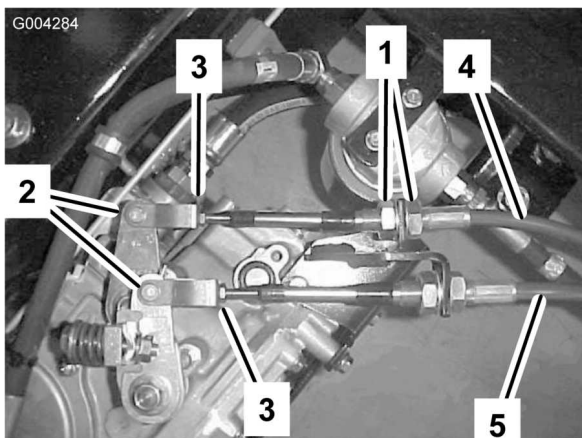

Figure 30
1. At the transaxle, remove cotter pins and clevis pins that secure cable clevis to shift levers (Figure 30).